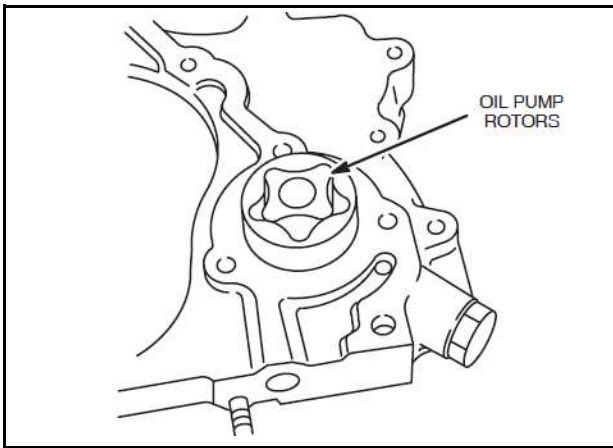

Fig. 3 - Inspect Rotors
2. Inspect rotors for wear or damage, Fig. 3.